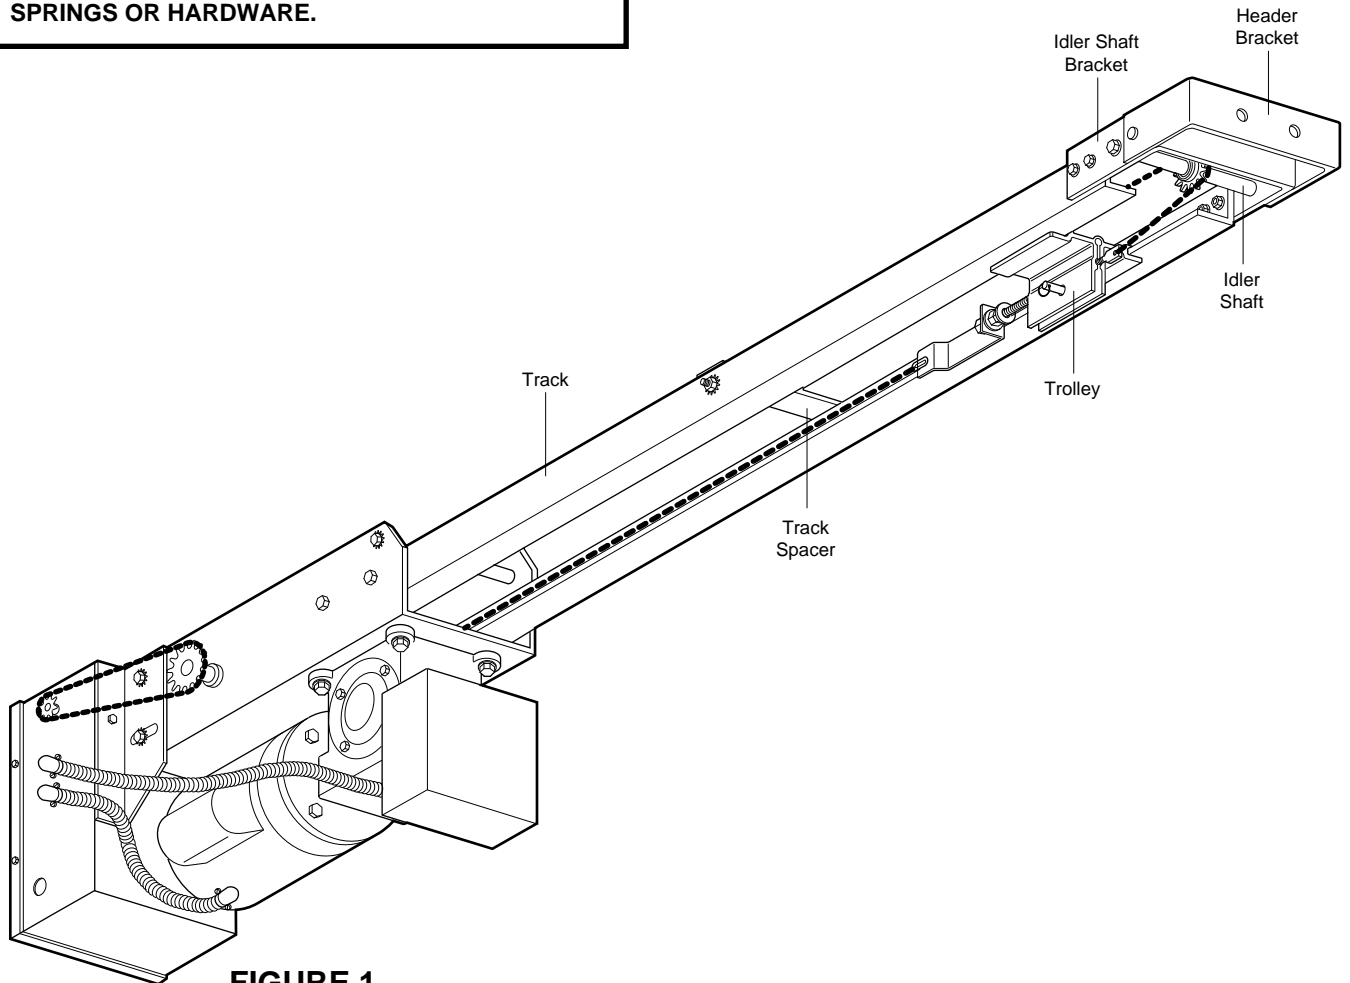

FIGURE 1
1. Fasten track to the operator frame. **DO NOT TIGHTEN BOLTS.** See Figure 1.
3. Place idler shaft bracket over end of track. There are two holes on each side of bracket (Figure 1). Fasten shaft bracket to end of rail assembly.